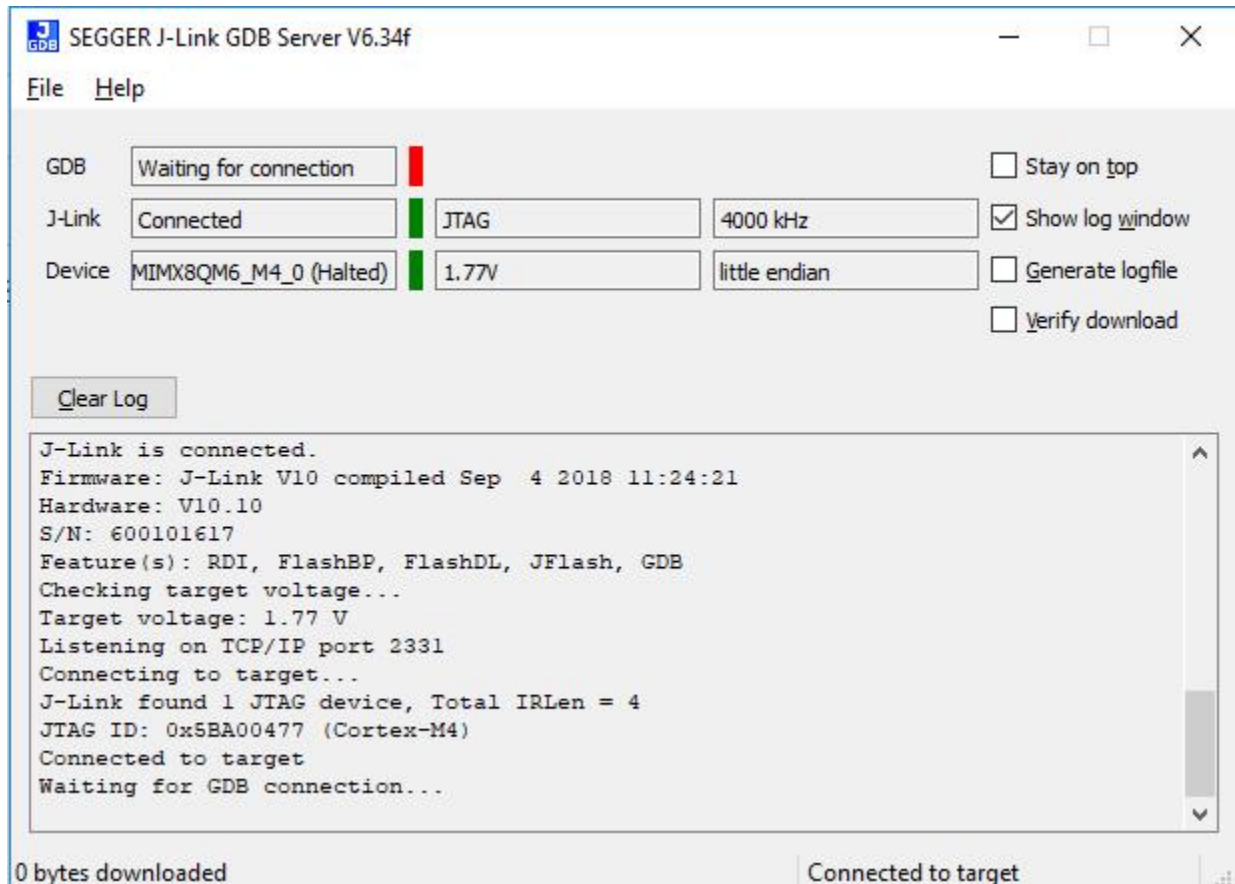

Figure 9. SEGGER J-Link GDB server screen after successful connection
5. After GDB server is running, the screen should resemble Figure 9 :